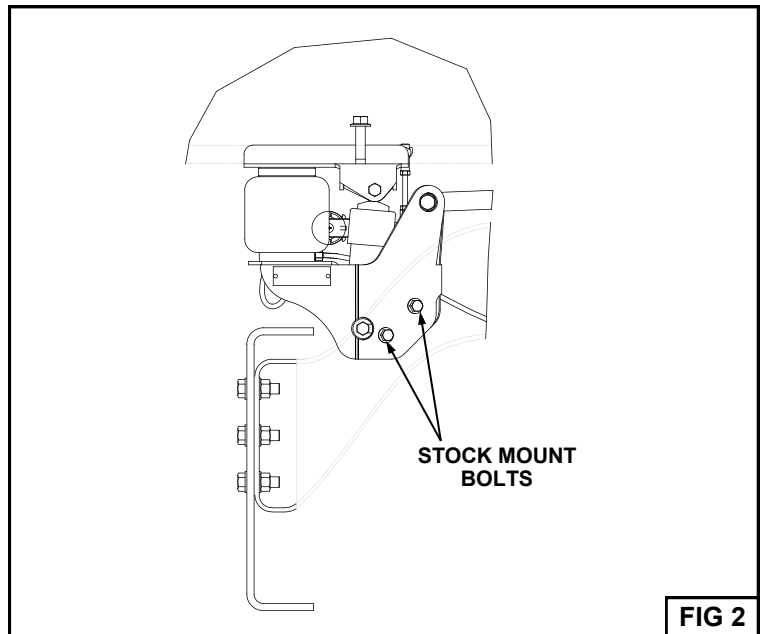

FIG 2
- A. Remove the top mount bolts from the stock mounts. Securely prop up the cab and remove the rear cab supports. **NOTE:** Save bottom stock mount bolts for later use (Fig. 2)
- B. Slide the unit halves of the CABMATE between the crossmember and the frame. Loosely fasten the Crossmember Mount Brackets to the Crossmember using the stock mount bolts (Fig. 2). Loosely fasten the Cab Mount Brackets to the cab using the 1/2" mounting hardware (Item No. 13 on the parts list).